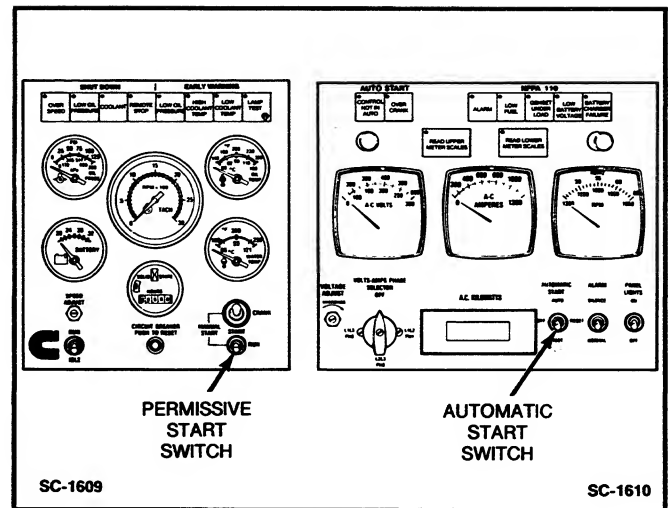

FIGURE 2-6. STOPPING SET AT CONTROL PANEL
- If the set was started manually at the set Engine Control Panel, place the Manual Start—Permissive Start switch to OFF position. See Figure 2-6.
- If the set was started at a remote control panel, place the remote starting switch to the Stop or Off position or; place the Automatic Start switch at OFF position, then return the switch to AUTO position to enable the next remote start signal. See Figure 2-6.